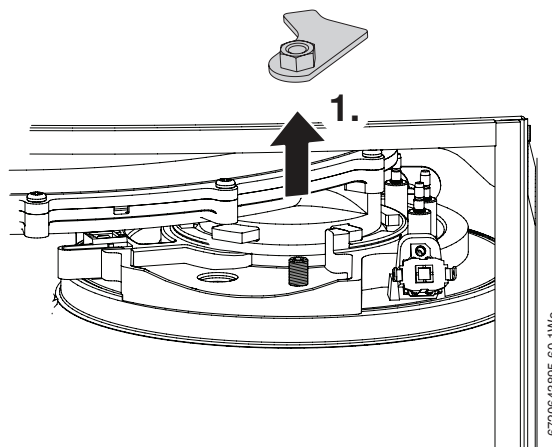

Fig. 78 Securing nut
1. Refer to figure 78 and undo the securing nut on the top of the heat exchanger and remove the retaining plate assembly.